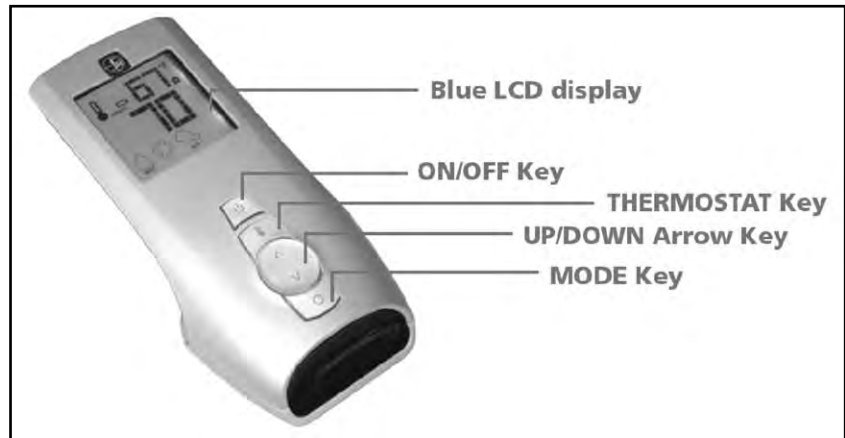
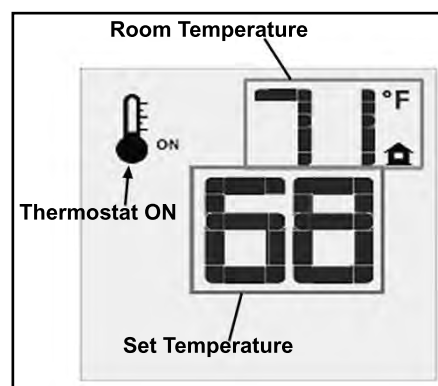
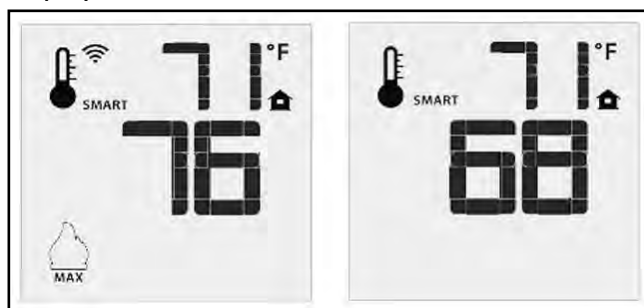

Figure 105: Proflame Transmitter.
Figure 111: Remote Control Displays Set Temperature.
Figure 112: Remote Control's Smart Flame Function.
The Proflame Transmitter uses a streamline design with a simple button layout and informative LCD display (Figure 105). The Transmitter is powered by three (3) AAA type batteries. A Mode Key is provided to Index between the features and a Thermostat Key is used to turn on/off or index through Thermostat functions (Figure 105 & 106).
Press the ON/OFF Key on the Transmitter. The Transmitter LCD display will only show the room temperature and Icon (see Figure 111). A single "beep" from the Receiver confirms reception of the command and both the pilot light (if the unit is not set to continuous pilot) and main burner will turn off.
The Remote Control can operate as a room thermostat. The thermostat can be set to a desired temperature to control the comfort level in a room. To activate this function, press the Thermostat Key (see Figure 105). The LCD display on the Transmitter will change to show that the room thermostat is "ON" and the set temperature is now displayed (see Figure 111). To adjust the set temperature, press the Up or Down Arrow Keys until the desired set temperature is displayed on the LCD screen of the Transmitter.
The Smart Thermostat function adjusts the flame height in accordance to the difference between the set point temperature and the actual room temperatures. As the room temperature gets closer to the set point the Smart Function will modulate the flame down. To activate this function, press the Thermostat Key (Figure 105) until the word "SMART" appears to the right of the temperature bulb graphic (Figure 112). To adjust